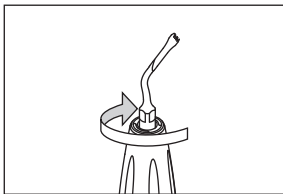

Fig. 1
- 1) Screw the tip into the handpiece by hand until it is tightened lightly (Fig. 1).